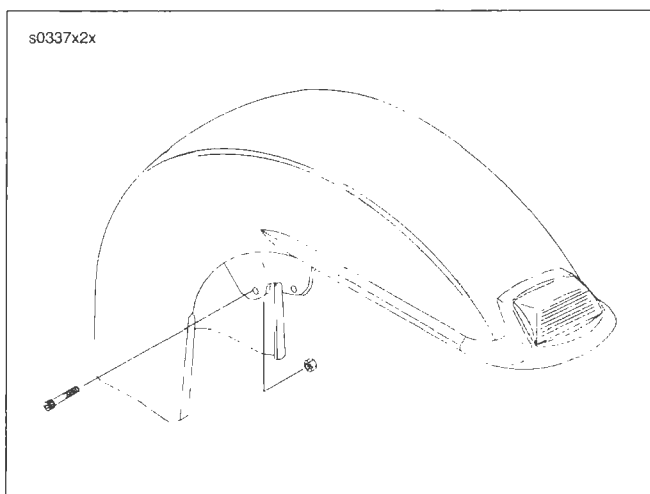

Figure 2-122. Front Fender: FLSTC
3. See Figure 2-122. Remove screws and nuts that hold fender in place and remove fender.